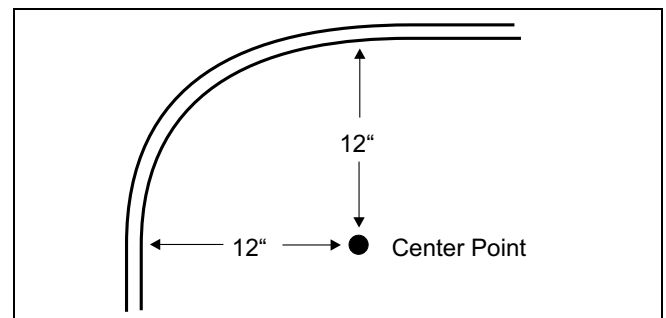

FIGURE 2: Minimum Suction Line Form (Copper Tubing Only)
- No attempt should be made to bend the suction line in a shorter radius than 12". See Figure 2.